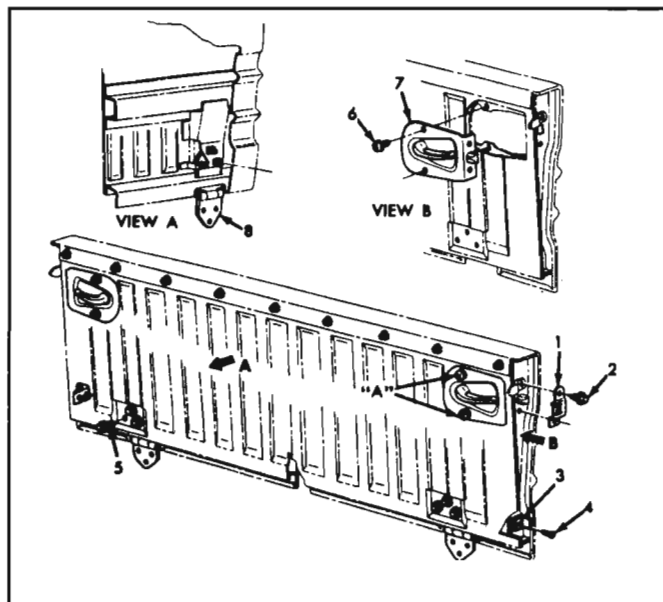

Fig. 10-105a—End Gate Hinge, Handle and Lock
2. Remove two retaining bolts ("A", fig. 10-105a) from handle and lock assembly to end gate inner panel.
3. Remove two bolts (2, fig. 10-105a) which retain lock guide and interlock.